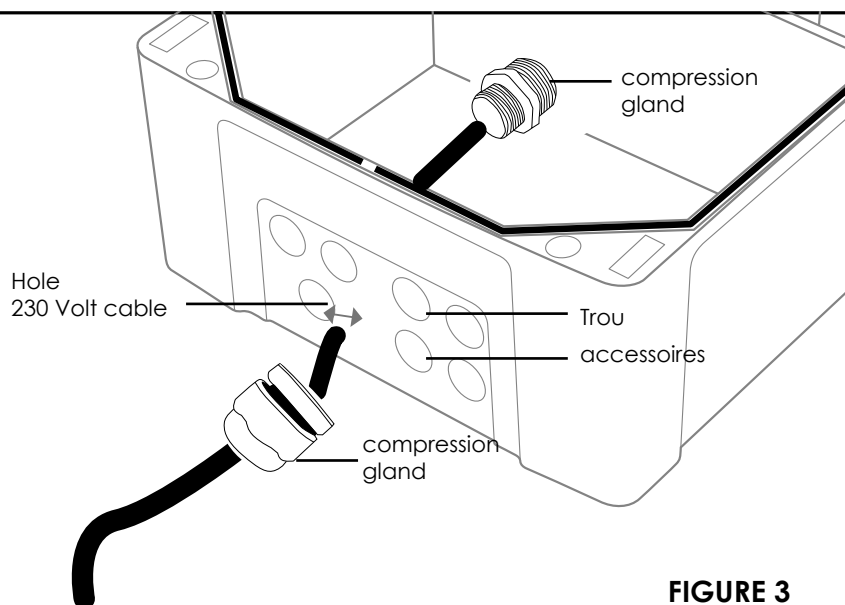

FIGURE 3
- (Figure 3)**
3	<p>Wait for the leaves to be completely closed and check that each motor stops on the central limit stop after 2 seconds of thrust. (Figure 3)</p> <p>If > 2 seconds, reduce RV1 slightly</p>